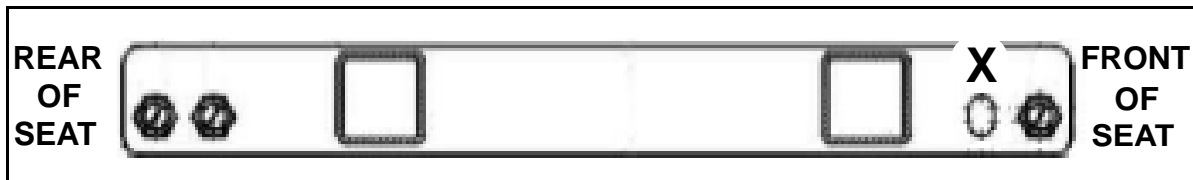

Figure 7. Coach sidewall t-bolt location.
8. Locate the passenger seat mounting hardware on the coach sidewall. Remove and discard the nuts from the mounting t-bolts (refer to Figure 7).
For proper installation, do not install a t-bolt at the location marked with an X in Figure 7.